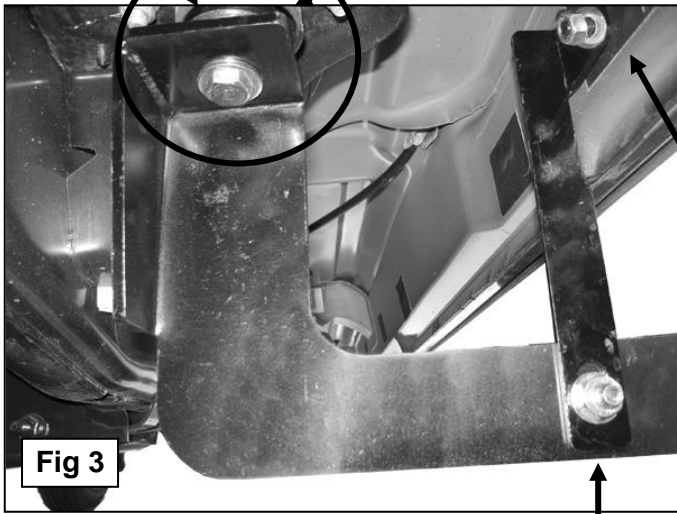

Fig 3
Spacer Plate onto the 12mm Hex Bolt then slide the rubber bushing onto the Hex Bolt. Make sure that the Spacer Plate is between the Mounting Bracket and the factory rubber bushing, **(Figure 3)**. Hold the front Mounting Bracket, (with hardware, factory washer and rubber bushing), up in position and hang it from the body mount by threading the hex bolt into the body mount. Snug but do not tighten hardware at this time. **IMPORTANT:** On 05 and newer model years, the large washer on the factory body mount bolt is removable, (do not discard-must reinstall), and the bolt is long enough to go through the Mounting Bracket and properly thread into the body mount. It is the installer's responsibility to check length and to determine whether to use the factory or replacement hex bolt.
6. Locate the driver side front Support Bracket (long) and attach it to the Bolt Plate with (1) 10mm Lock Washer, (1) 10mm Flat Washer and (1) 10mm Hex Nut, **(Figure 3)**. **NOTE:** Place Support Bracket against the front facing side of the Mounting Bracket with the bent tab facing towards the **front** of the vehicle. Snug but do not tighten hardware at this time.
7. Attach the lower end of the front Support Bracket to the Mounting Bracket using (1) 10mm x 30mm Hex Head Bolt, (1) 10mm Lock Washer, (2) 10mm Flat Washers and (1) 10mm Hex Nut, **(Figure 3)**. Do not tighten hardware at this time.